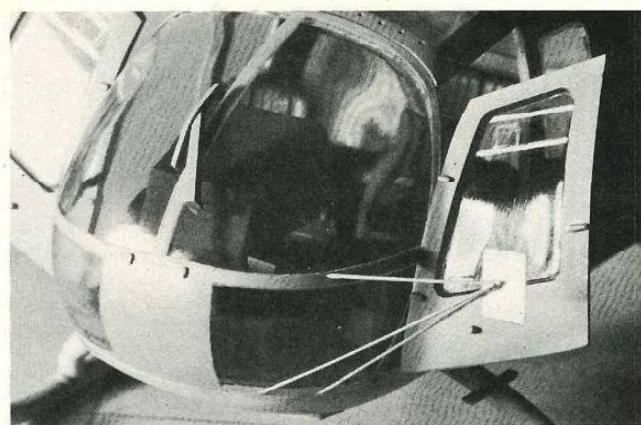

Fig. 7. A scratchbuilt windshield wiper and a rearview mirror add visual interest to the BO 105.
**Exterior details.** The front bubble sports a windshield wiper, Fig. 7, which should be attached with Elmer's to prevent crazing the plastic. The small motor for the wiper was constructed from a piece of styrene sheet, and a piece of painted sprue for the power cable. When you attach the bubble to the fuselage, be sure to align it so that the frames look right from all angles. Once again, use Elmer's because it will give you time to position the part correctly before the glue sets.
Some BO 105s are equipped with large rearview mirrors on the copilot's side of the fuselage, Fig. 7. I made the mirror assembly from three pieces of sprue and a small piece of paper painted silver to simulate a mirror, attached the assembly with Elmer's, and painted the supports the color of the front bubble frame.